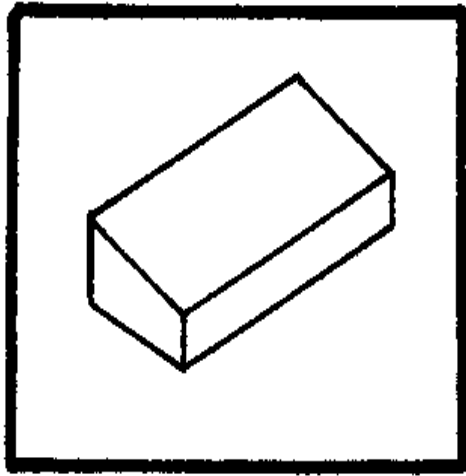

Fig. 18 - End Taper
60. End Taper (See Fig. 18) Move the